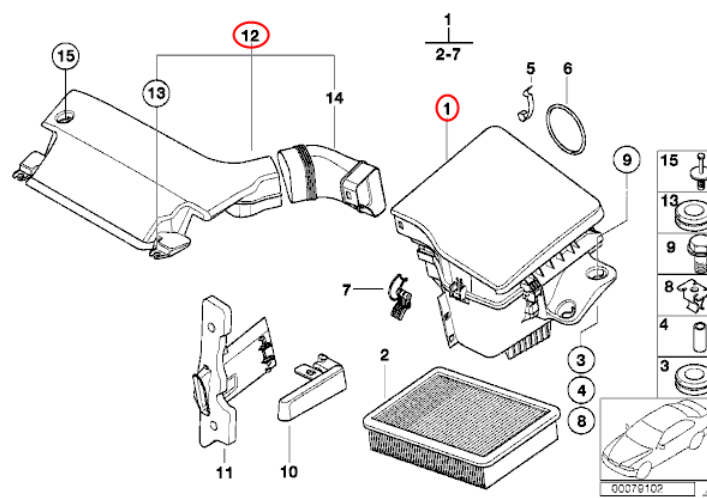

Figure 2
3. Disassemble intake (Figure 2, #12) and air filter box (Figure 2, #1). These components are no longer needed. Leave vacuum hose for fuel pressure regulator unconnected (E46/E39/Z3). It will be used later.